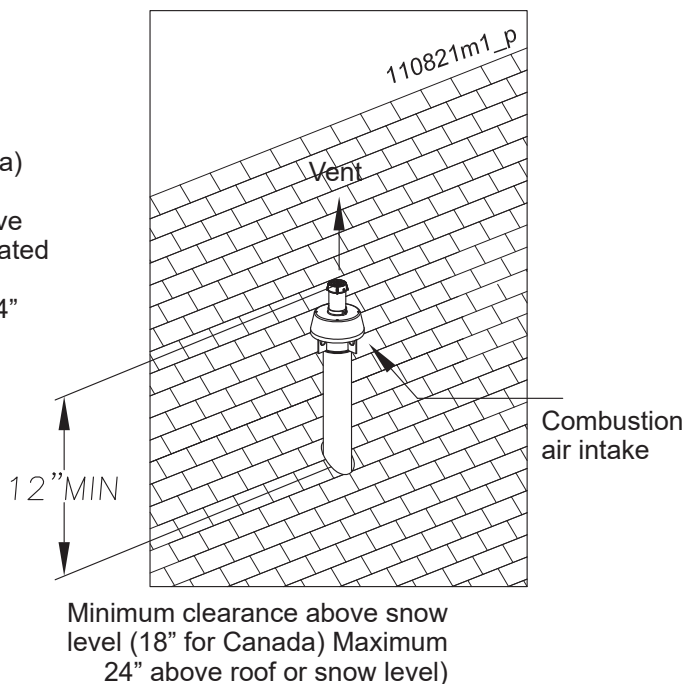

Figure 11-25 Concentric vertical terminations
- 1.- Determine the best location for the termination kit (see Figure 11-25);
- 4.- Cut one (1) hole into the structure to install the termination kit;